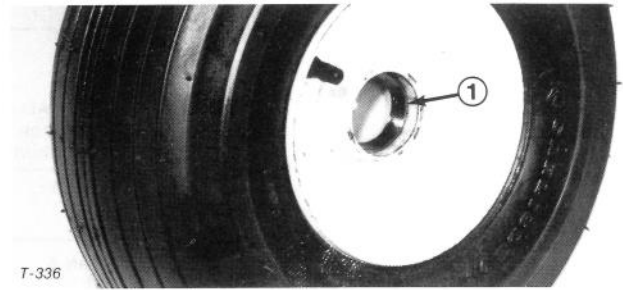

Figure 32
4. Check the bearing cups (Fig. 32) for wear, pitting or other noticeable damage. Replace defective parts. If bearing cups were removed from the wheel hub, press them into the hub until they seat against the shoulder.